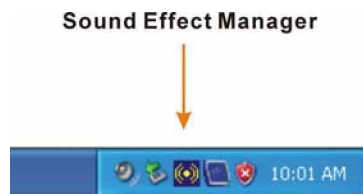

Figure E-2: Sound Effect Manager Icon [Task Bar]
- „ The Sound Effect Manager icon in the Notification Area of the system task bar (see **Figure E-2**), or